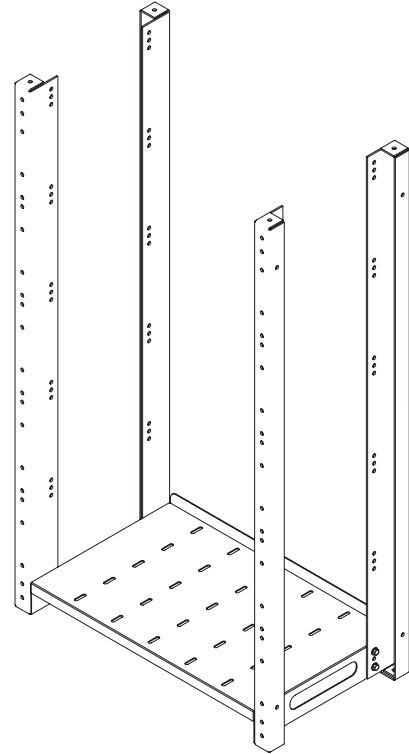

Figure 7.4b
- Attach the bottom shelf to the 4 corner frames per Figure 7.4b. The 3-hole pattern in the bottom shelf is to have bolts in the upper and lower holes when fastening to each corner frame (middle hole is left empty). Finger tighten bolts.